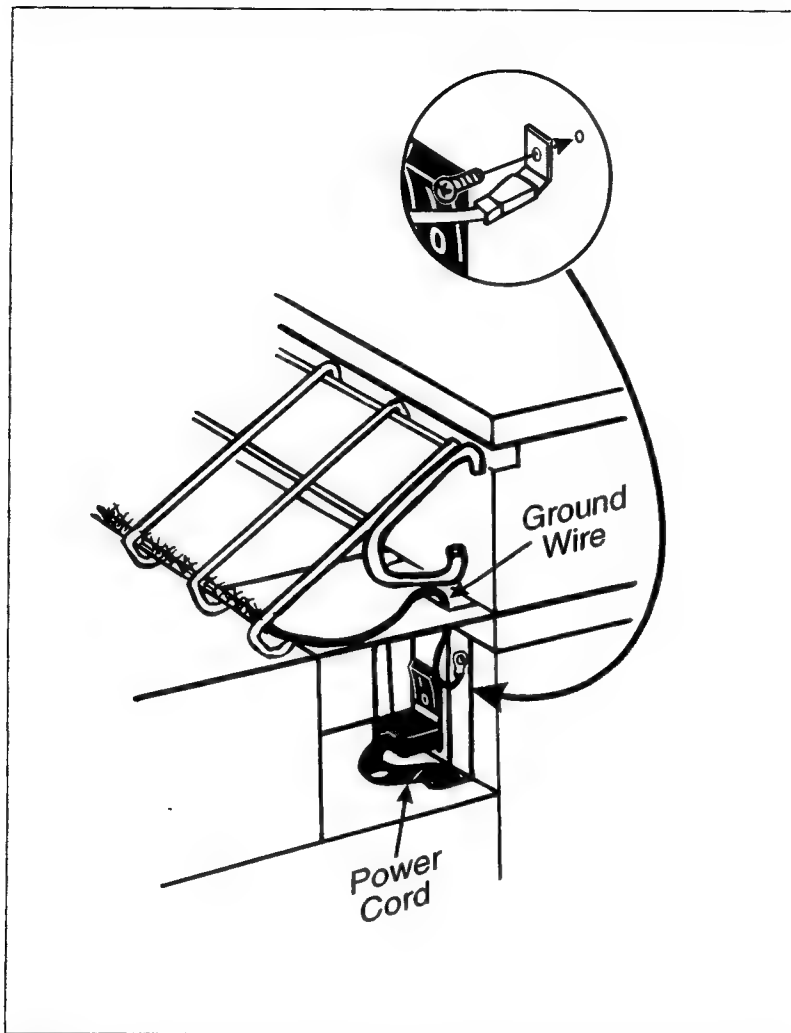

Figure 2-33. Main Weldment Pocket. Route Power Cord and Ground Wire
- f. Connect the ground wire. Locate the small screw next to the power switch on the back panel of the printer. Insert the ground wire onto the spade lug underneath the screw (figure 2-33).